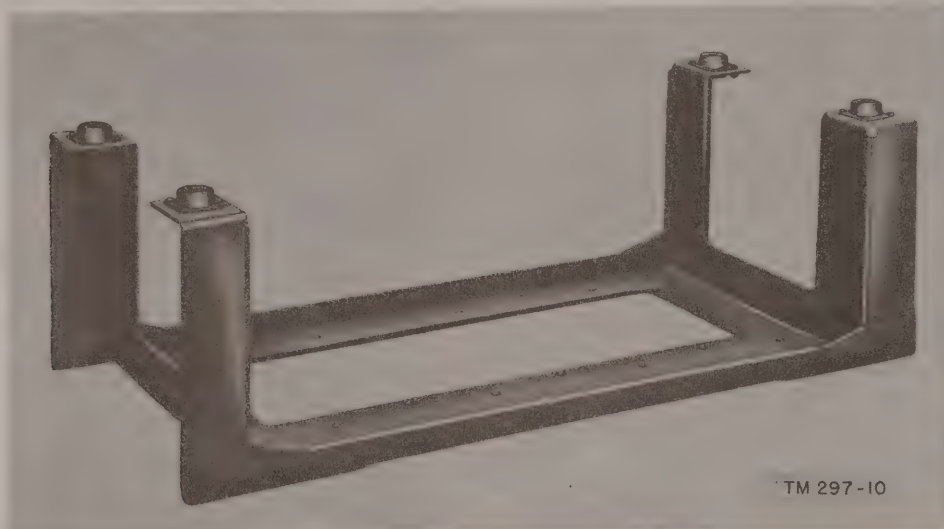

Figure 12. Electrical equipment rack MT-1236/VRC.
18. Electrical Equipment Rack MT-1236/VRC (fig. 12)